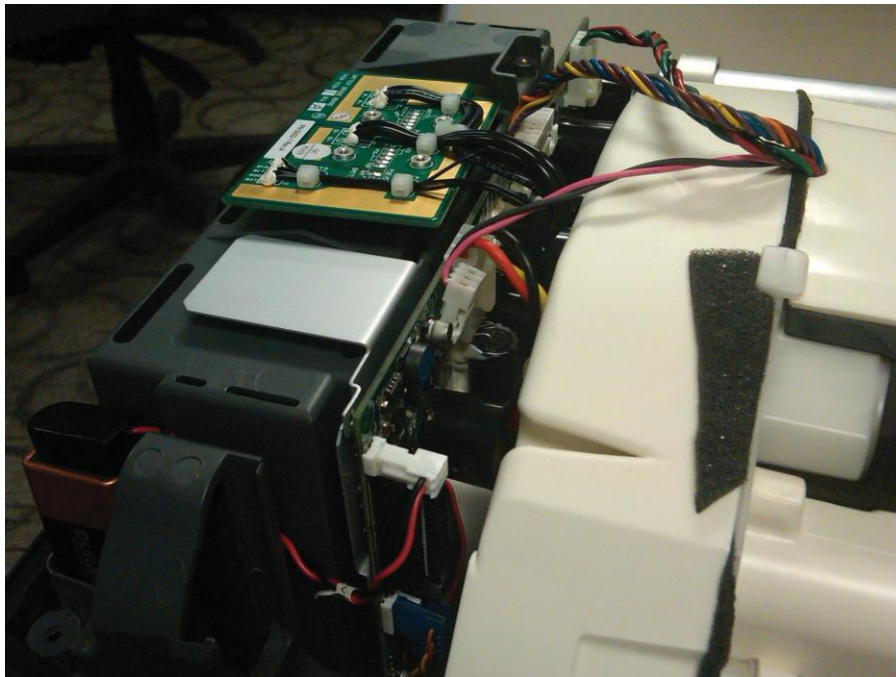

Fig 52: Routing Wires
1.8 Position the Power Manager PCB (PN: SP5932-4-SEQ) 1” out of the case as shown in Fig 52. Gently push the Compressor Box away from the Power Manager pcb by 1/8”. Connect the 2 wire harnesses (Ext Power & ATF harness) and the Control Board Ribbon Cable. **Note:** Route the wiring under the edge of the compressor. Position the Power Manager PCB into the alignment slots on the backcase. Finally connect the 9V battery wiring harness (between the exhaust & battery compartment) and 3 Compressor wiring harnesses to their connectors.